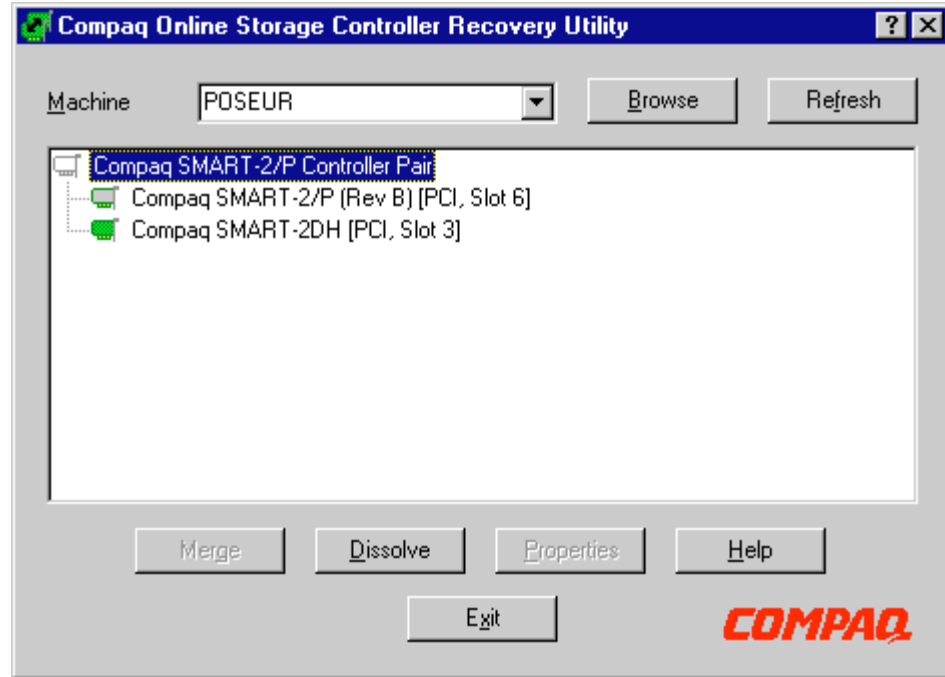

Figure 13 : Merge Completed and Pair Active
4. By clicking on the *Yes* button, you complete the merge operation and the controller pair is formed. Figure 13 shows the Online Storage Controller Recovery Utility with an active controller pair.
Once a controller pair is formed, a new icon is displayed that represents controller pair. The normal controller pair icon is white, as shown in Figure 13. Table 7 shows how the status of the individual controllers affects the status of the icon representing the controller pair.